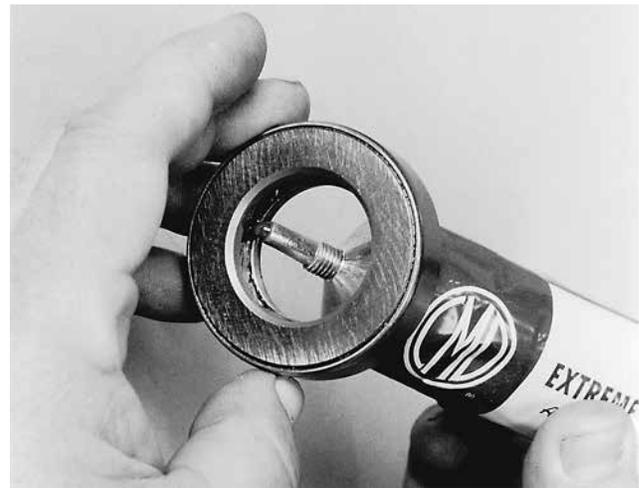

Figure 16: Applying lube to the thrust bearing
4. **Apply** extreme-pressure lube to the internal parts of the thrust bearing (Figure 16).